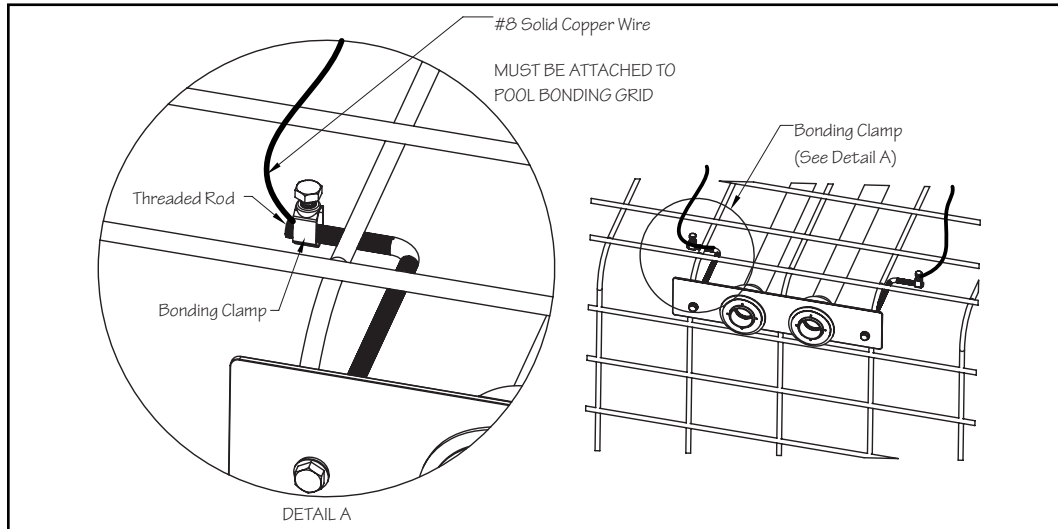

Fig. 4.20
**The threaded rods must be tied into the pools bonding grid.** Secure a bonding clamp to each threaded rod. Attach a #8 solid copper wire to each bonding clamp. These wires **MUST** be attached to a bonding connection that's incorporated into the pools bonding grid. In most cases this will be a connection at the rebar. Verify ALL bonding connections are tight before shooting gunite (Fig 4.20).